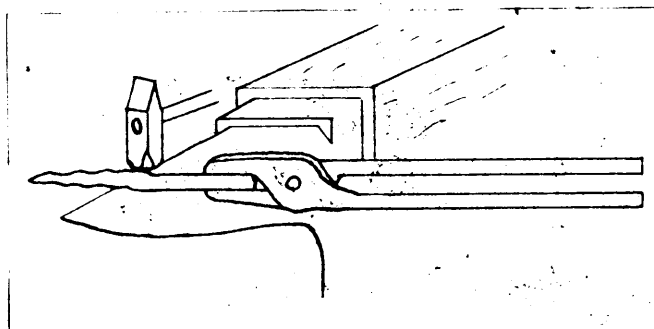

Figure 3.
2. Place heated stock on horn of anvil. (Figure 3) Strike blows directly above the horn. Bottom fuller may be used in place of the anvil horn.